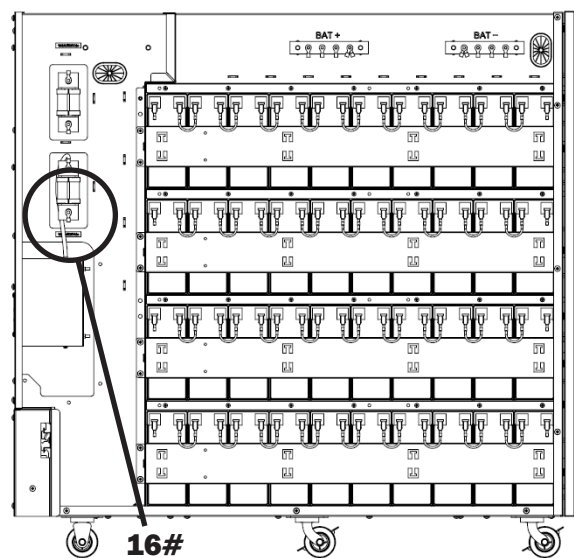

Figure 5-24
36. Connect the fuse to the BAT+ circuit breaker (Figure 5-24).